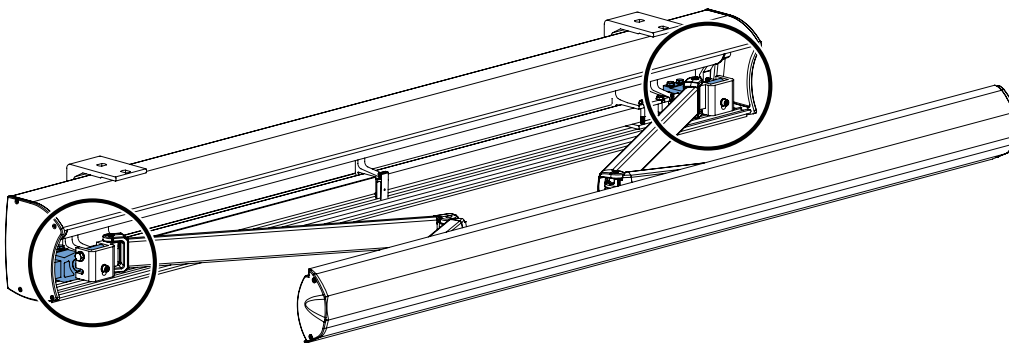

fig. 6.1 Location arm-connections
1. Unroll the awning completely. The arm-connections are located left and right at the beginning of the folding arms (on the side of the box). See figure 6.1.